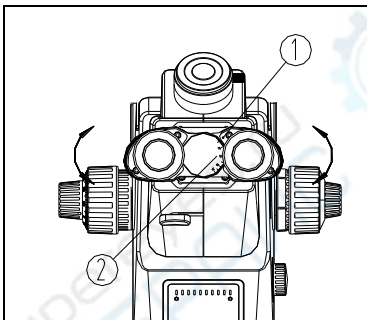

FIG. 19
The "①" on the side has a function for marking ②, it show figure of interpupillary distance. (Fig. 19)